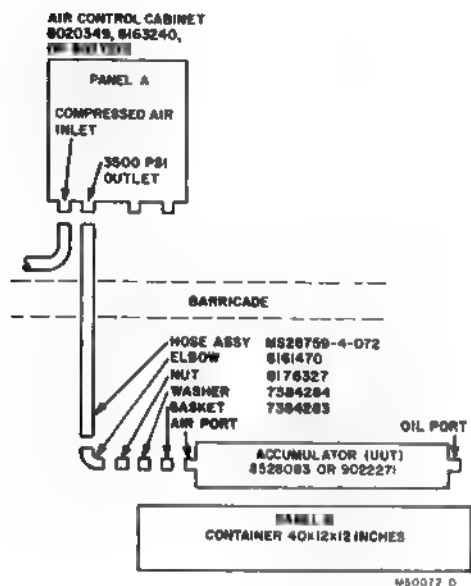

Figure 172.1. Air leak test diagram.
(3) Preparation for final test—Part 1.
- (b) Connect the test equipment to the UUT (fig. 172.1).